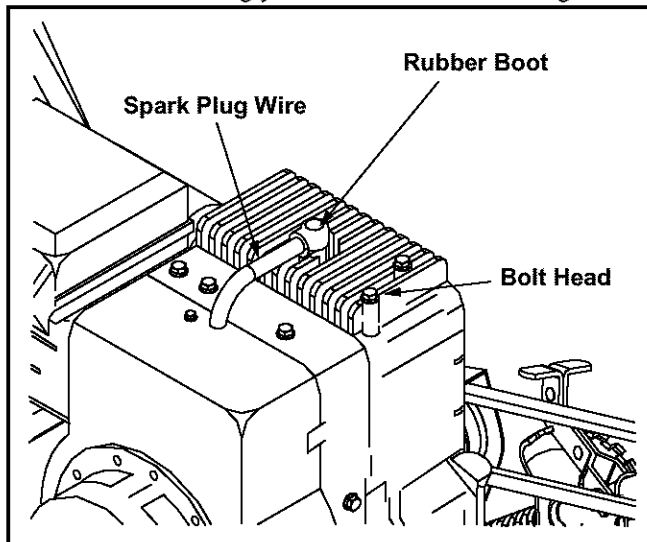

Figure 2
- Disconnect the spark plug wire from the spark plug and ground it on the top of the engine by placing its rubber boot snugly over a bolt head. See Figure 2.
- Disconnect the spark plug wire and ground it as instructed earlier in this section. Refer to Figure 2.
**IMPORTANT:** Make certain that the engine's spark plug wire is properly grounded as instructed in SECTION 2: Assembling The Edger before storing the edger for its next use. Refer to Figure 2.